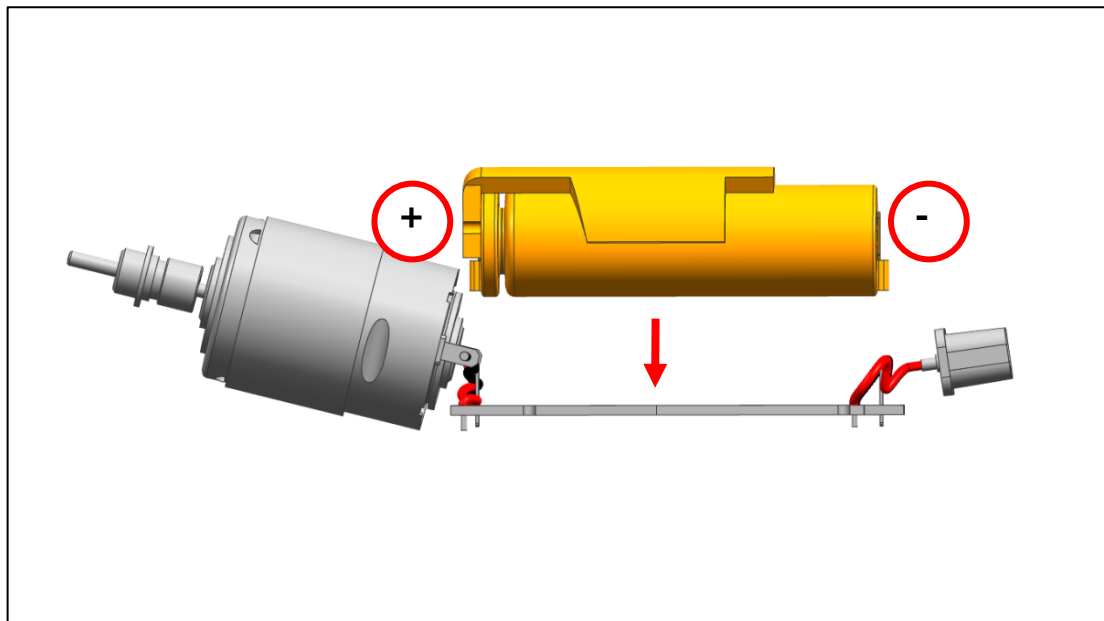
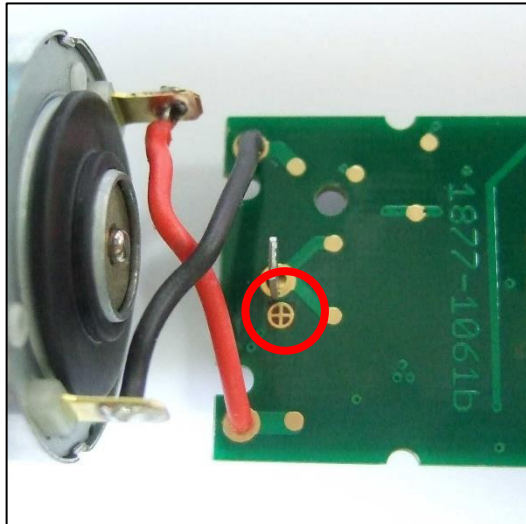
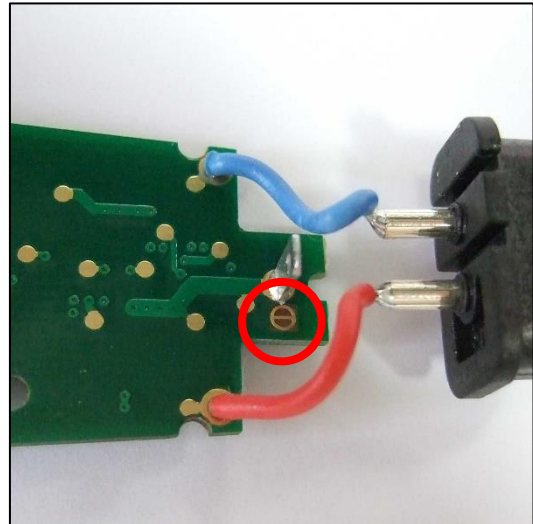

Fig. 44
Fig. 45
Fig. 46
a) Plug the battery onto the circuit board (Fig. 44, Fig. 45, Fig. 46).
Danger: Ensure the battery polarity is correct! The positive terminal of the battery points towards the motor, the negative terminal points towards the plug socket (Fig. 44)!
Danger: The battery polarity is marked on the battery cell or on the underside of the circuit board (Fig. 45, Fig. 46)!